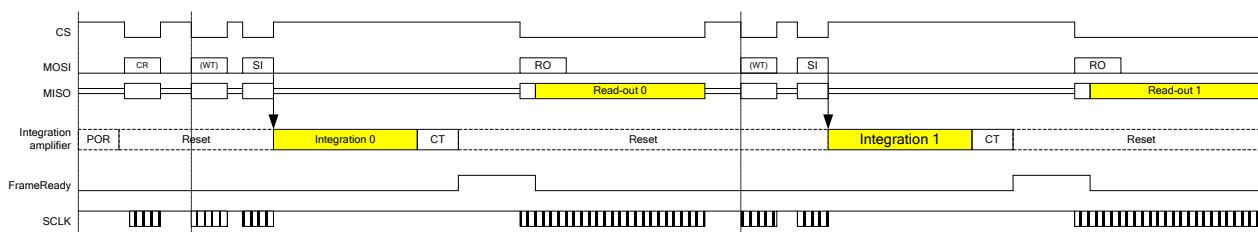

Figure 11: Global timing diagram
A global timing diagram is given in Figure 11. After power-up there is a Power-On-Reset phase (POR) to initialize the sensor in a reset state. The first command is a Chip Reset CR which is needed to fully initialize the device. The first integration cycle (Integration 0) is initiated by uploading a Start Integration SI command. After completion of the integration cycle, there is a minimum conversion time (CT) of a time  $t_f$ , after which the *FrameReady* goes high. This indicates that the read-out cycle can be started. When the read-out is completed, a new integration cycle can be started.
The first integrate/read-out cycle after power-on/chip reset is considered as a dummy scan and as such, the data has to be disregarded ("Read-out 0" in Figure 11).